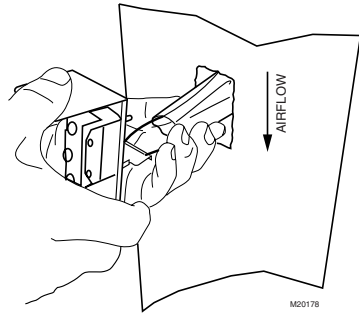

Fig. 11. Inserting sail switch in direction of airflow.
5. Press together the sides of the wire loop. Insert the sail into the duct. (When in the Off position, the sail should point into the direction of airflow as shown in Fig.11.)